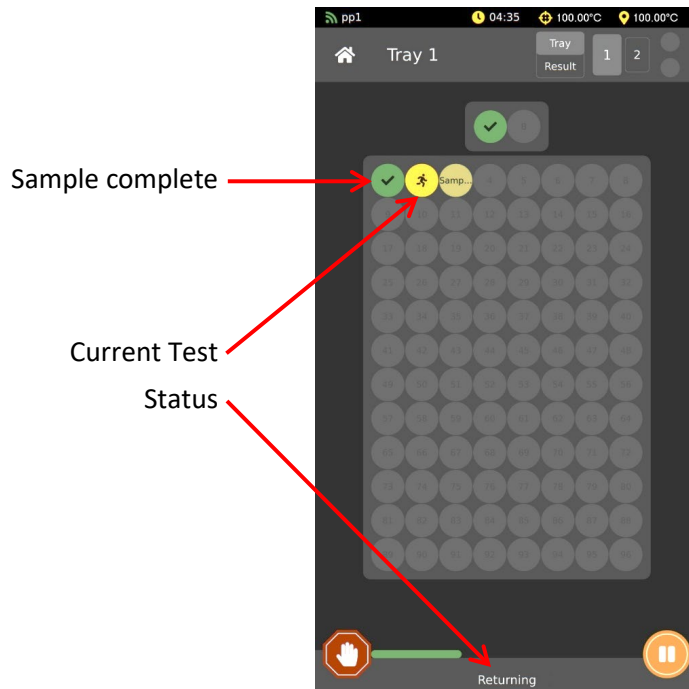

Figure 44: Sample and Test Status
1. The touchscreen displays the sample and test status as well as which sample it is testing. See Figure 44.